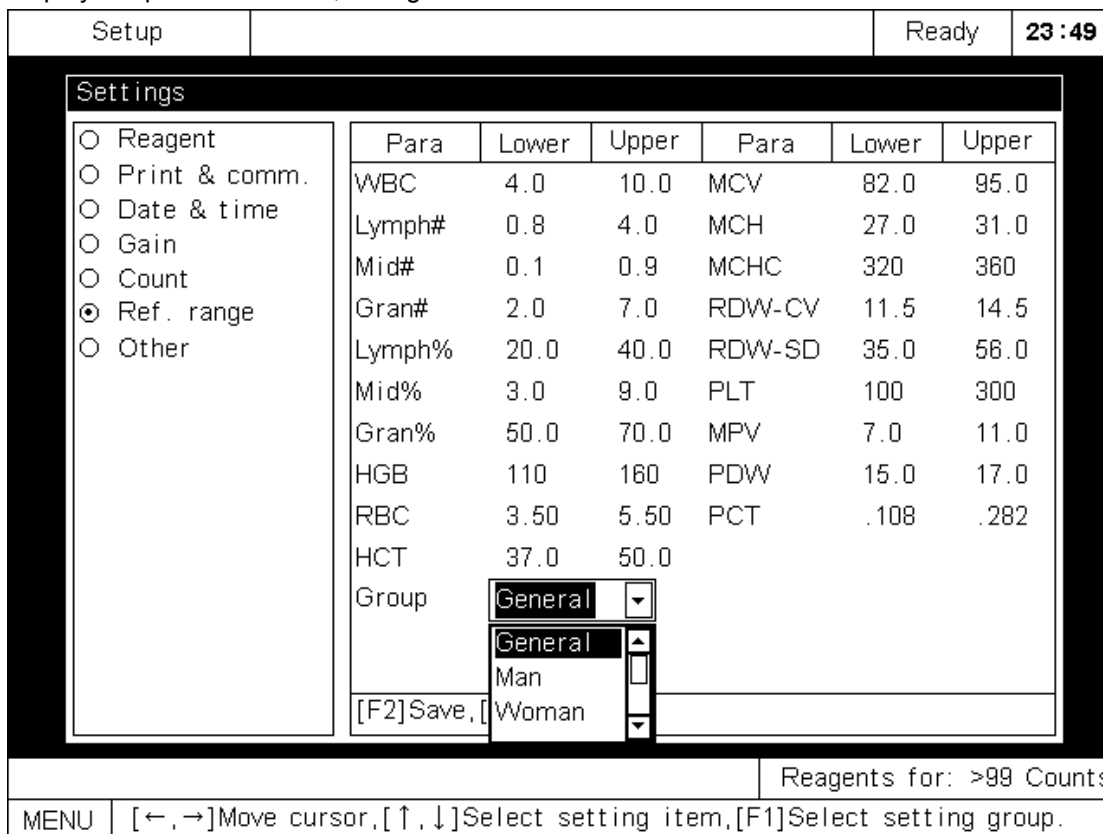

Figure 7-31 Selecting patient group
- Press [] or [] to move the cursor to the combo box right of **Group**. Press [ENTER] to display the pull-down menu, as Figure 7-31 shows.